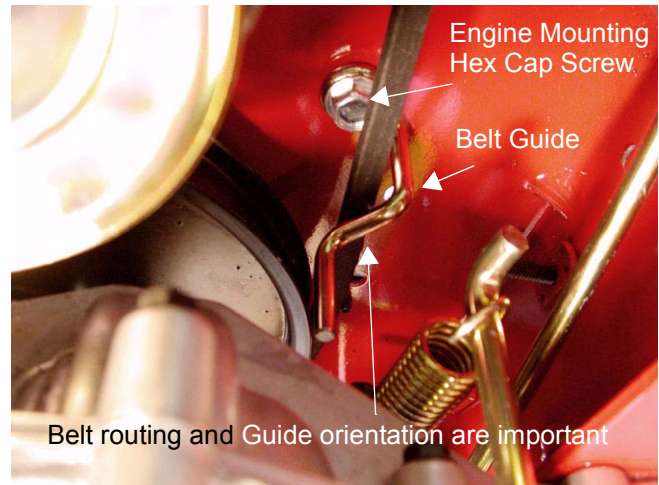

Figure 64
- 15.8. Reinstall the hex cap screw through the frame and into the engine. See Figure 64.